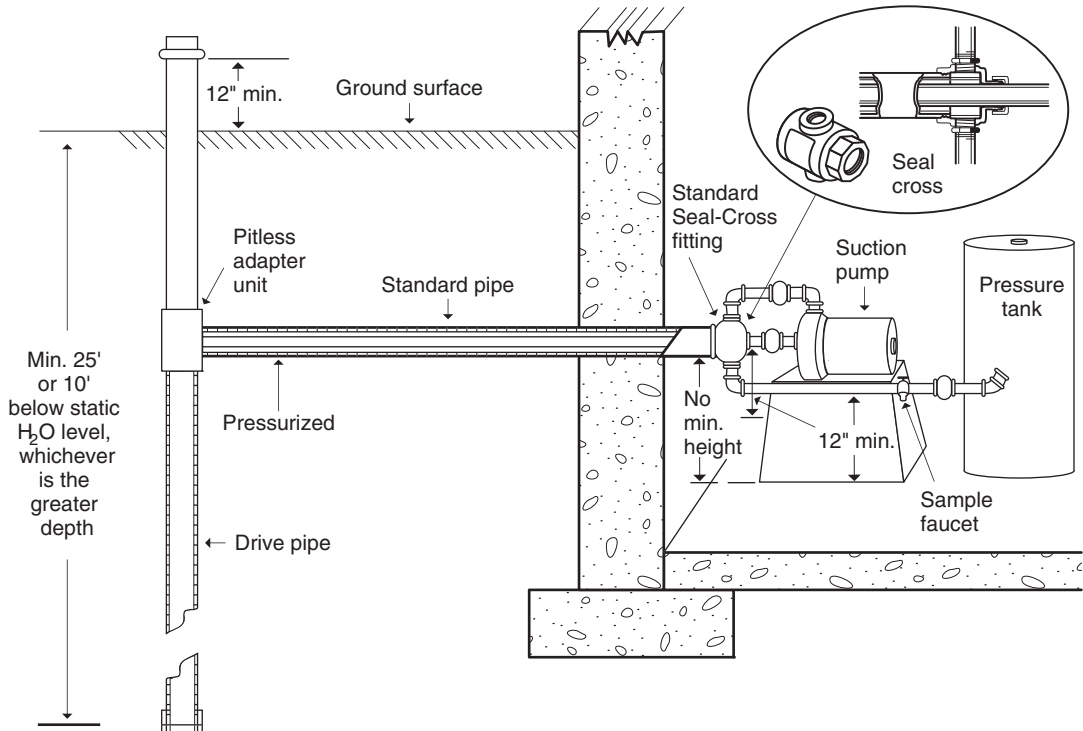
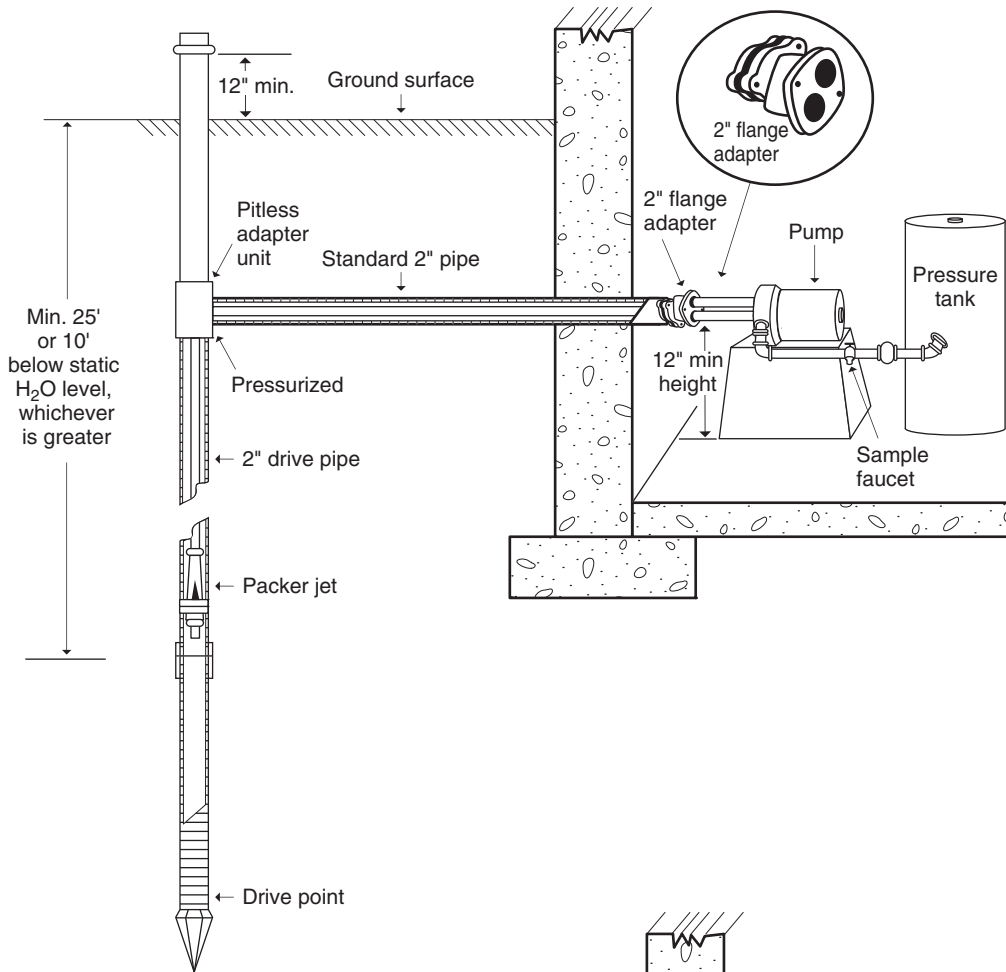

Figure 2.
Figure 3.
- ▼ **Minimum Diameter:** There is no minimum diameter for driven-point wells installed with a “shallow” well pump. Atmospheric pressure of about 14.7 pounds per square inch allows a “shallow-well” pump to “pull” water up from a maximum depth of only about 20 feet (*Figure 2*). However, if you know the pumping water level will be deeper than about 20 feet, then you must use drive pipe having a minimum diameter of at least 2 inches. This is necessary because the drive pipe must be large enough to accommodate a “packer-jet assembly” to be installed within the pipe to enable the pump to “pull” water up from a greater depth. (See *Figure 3*). Remember, you are not allowed to construct a pit to get the pump closer to the water table to enable you to use a shallow-well pump.
- ▼ The annular space between the concentric piping must be pressurized under water pressure by installing a “seal-cross fitting” or a “flange adapter.” (*Figure 2*).
- ➔ Offset connection using horizontal pressurized concentric piping if the well is installed outside with the pump “offset” in the basement (*Figures 2 and 3*).
- ➔ Shallow-well jet suction pump for water levels less than about 20 feet deep. (*Figure 2*).
- ➔ Deep-well type pump with a packer-jet assembly for water levels deeper than about 20 feet. The minimum well diameter for this type of pump is 2 inches to accommodate the installation of the jet assembly in the well (*Figure 3*). This type of pump can be used efficiently for wells having pumping water levels down to about 70 to 100 feet.